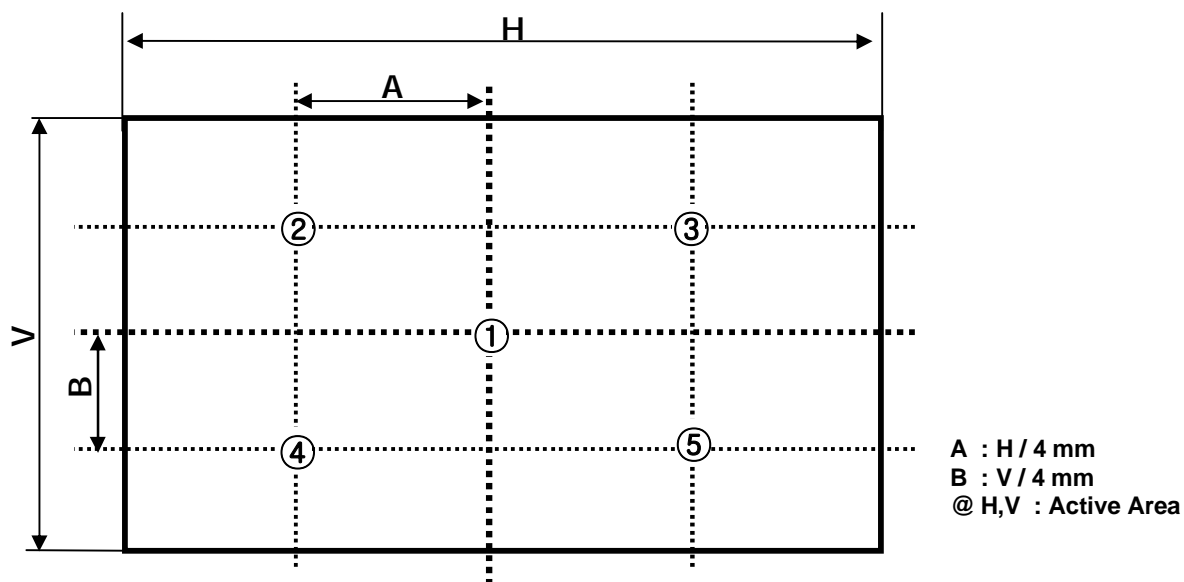

FIG. 2 Measure Point for Luminance
2. Surface luminance is determined after the unit has been 'ON' and 60min after lighting the backlight in a dark environment at $25 \pm 2^\circ\text{C}$. Surface luminance is the luminance value at center 1-point across the LCD surface 50cm from the surface with all pixels displaying white. For more information see the FIG. 2.
Where Lon1 to Lon5 are the luminance with all pixels displaying white at 5 locations . For more information, see the FIG. 2.